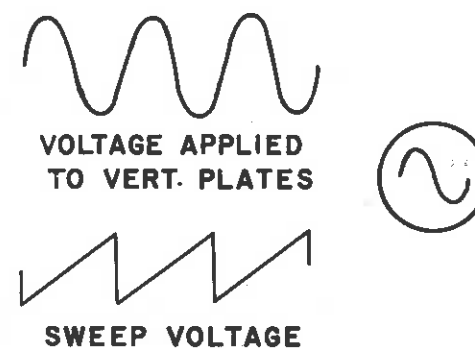

Fig. 5—The voltage waveform produced when the saw-tooth sweep voltage is applied to the horizontal plates, and an a-c voltage to the vertical plates.
When an alternating voltage is applied to the vertical input terminals, the spot is shifted vertically up and down from the center of the screen by the positive and negative half-cycles, respectively. When the same value of alternating voltage is applied and a linear sweep voltage is applied to the horizontal deflecting plates, the pattern on the screen takes the same shape as the voltage applied to the vertical input when the sweep frequency is adjusted to an integral multiple of its frequency. This pattern is shown in Fig. 5. The trace shows not only positive and negative peak voltage values, but the waveform as well. Additional information gained from a study of the pattern includes, (1) whether the positive and negative peaks are of the same amplitude, (2) whether the voltage is a true sine wave or whether it is distorted.